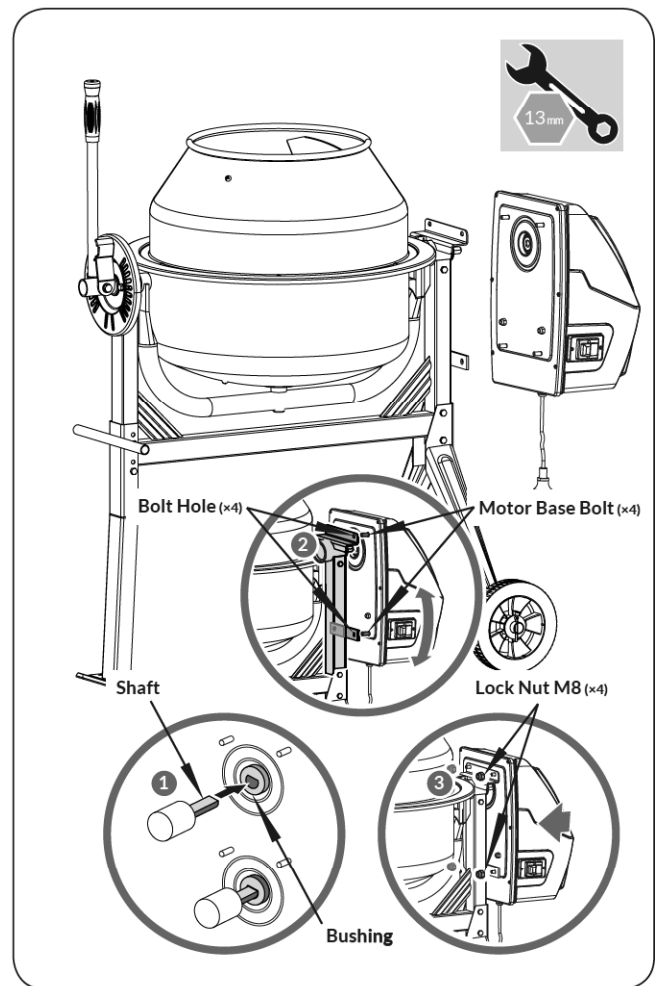

**Figure 5b**
2. Insert the spring into the bar pipe, hold the spring in place with a finger, and place the bar over the larger diameter shaft so the spring stays inside the bar pipe. (See **Figure 5b, Illustration 1**) Press down on bar pipe until the holes in the bracket line up with the hole drilled in the shaft. (See **Figure 5b, Illustration 2**) Insert a M10×65 hex bolt through the hole, place a flat washer on the bolt, and secure with nut. (See **Figure 5b, Illustration 3**) Secure the nut against the bracket, do not overtighten as this will prevent the bracket from pivoting on the bolt.